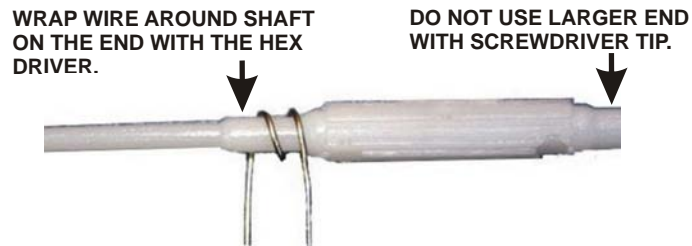

Figure 34. Winding L10 on the Alignment Tool.
- Wrap the wire around the alignment tool twice as shown in Figure 34 to form a two-turn self-supporting coil. Use the thicker portion at the end of the alignment tool with the hex driver exactly as shown, *not* the larger end with the screwdriver tip. Instead of the alignment tool, you can use the shaft of an 9/64-inch (or 3.5 mm) drill bit.